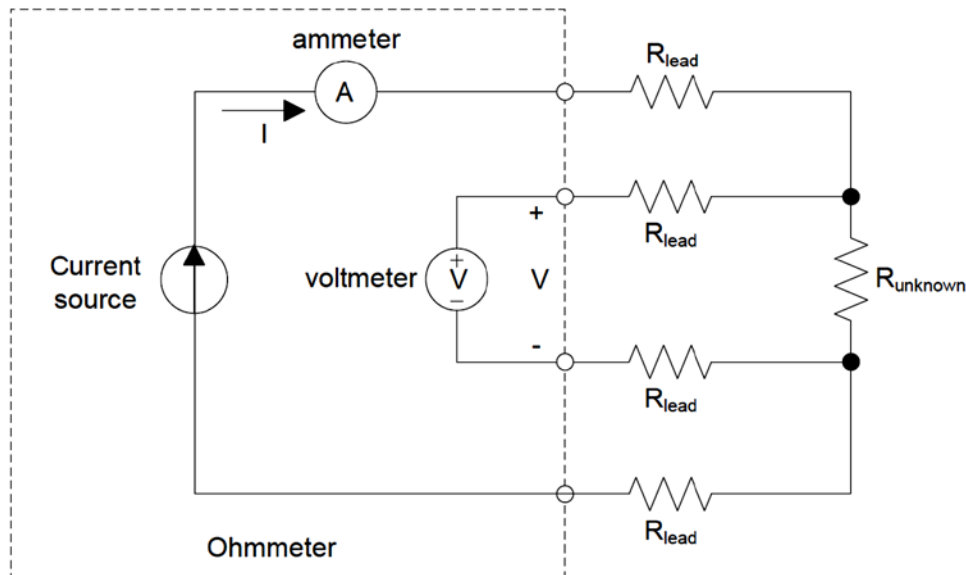

Figure 6-2 4-wire Resistance measurement
**4-wire Resistance Measurements:** In the diagram of Figure 6-2, a separate pair of test leads is used to connect the unknown resistance directly to the Ohmmeter’s internal voltage sensing circuit. As before, current flowing through the leads connected to the current source produces a voltage drop across the wires. This unwanted voltage is not included in the resistance calculation, however, because voltage is measured directly across the unknown resistance. The voltage sensing circuit draws negligible current due to high internal resistance, so voltage dropped across the voltmeter leads is essentially zero, and the voltage measured is identical to the voltage across  $R_{unknown}$ .